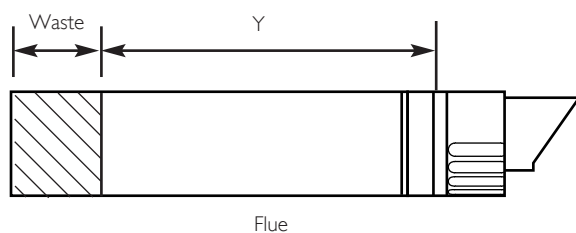

Fig. 52
5. Mark dimension 'Y' on the flue as shown (Fig. 52). Carefully cut the waste material from the flue, ensuring that the ducts are square and free from burrs.